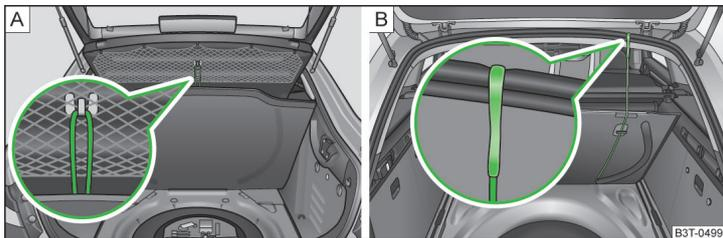

Fig. 102 Fixing the floor covering: Superb / Superb Combi
- Superb: With the loop on a hook on the luggage compartment cover » Fig. 102 - A.
- Superb combi: With the hook on the frame of the luggage compartment lid » Fig. 102 - B.